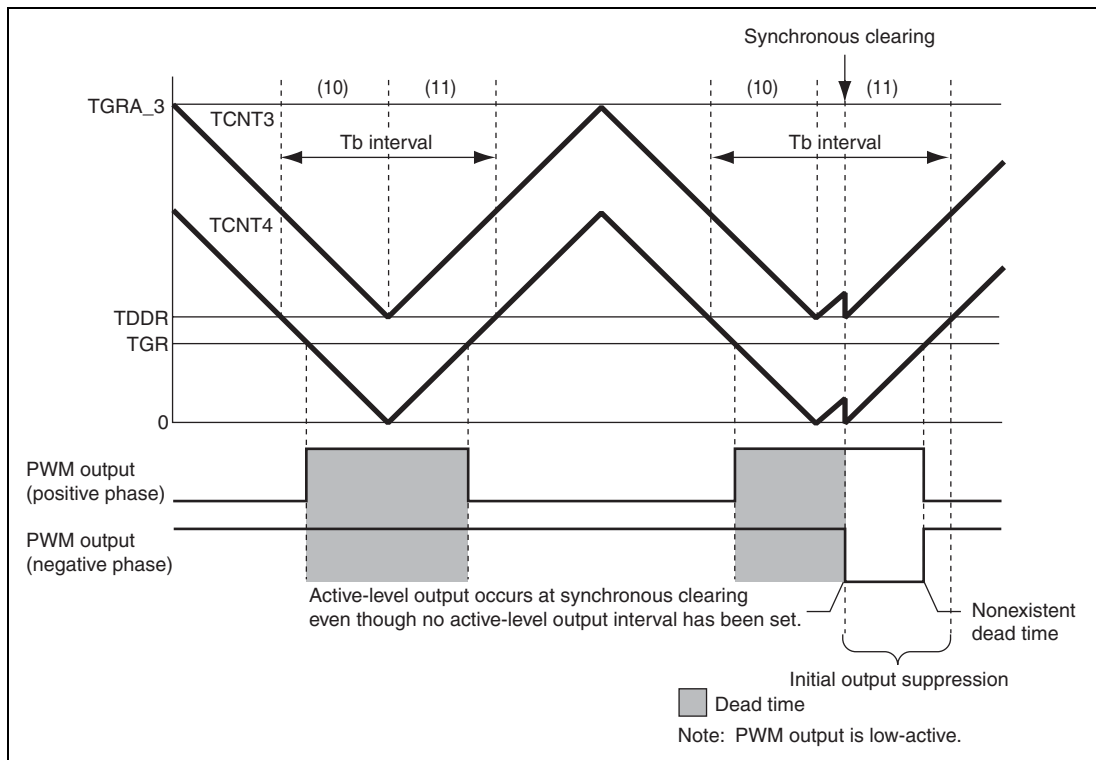

Figure 10.136 Condition (2) Synchronous Clearing Example
Condition (2): When synchronous clearing occurs within initial output suppression interval (10) or (11) and $TGRB_3 \leq TDDR$, $TGRA_4 \leq TDDR$, or $TGRB_4 \leq TDDR$ is true (figure 10.136)